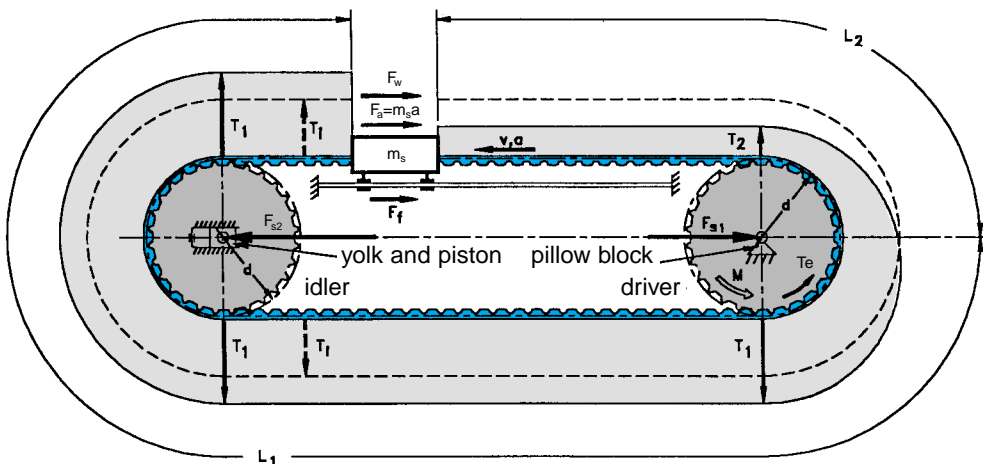

FIG. 3.
T_e for a linear positioning application is primarily the sum of the following six factors (see Fig. 3).
2. The friction force F_f between the slide and the linear rail is determined experimentally, or from data from the linear bearing manufacturer. Other contributing factors to the friction force are bearing losses from the yolk, piston and pillow blocks (see Fig. 3).
(see Fig. 3)